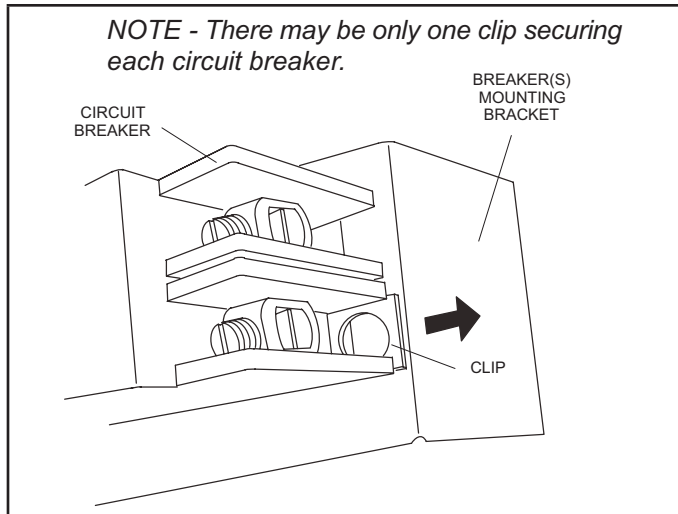

FIGURE 7. Circuit Breaker Clip
- 1 - Locate the one clip located on the right side (see arrow) of each breaker (FIGURE 7). The clip secures the circuit breaker to the mounting bracket. Pull the clip to release the breaker from the mounting bracket and rotate the breaker to the proper position.